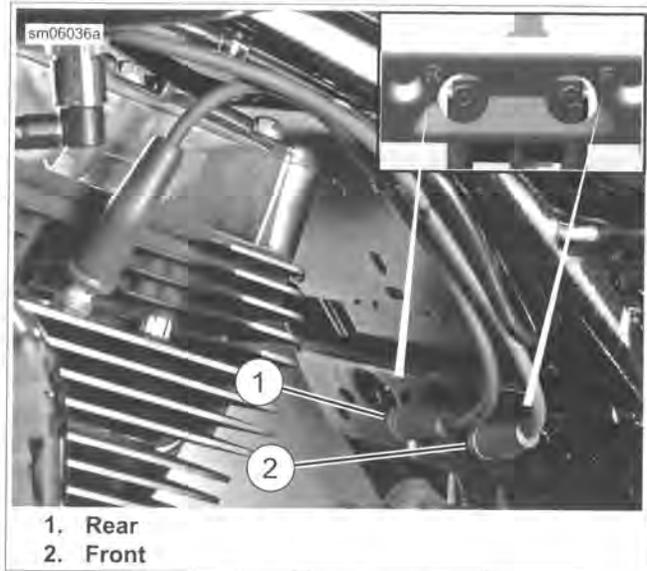
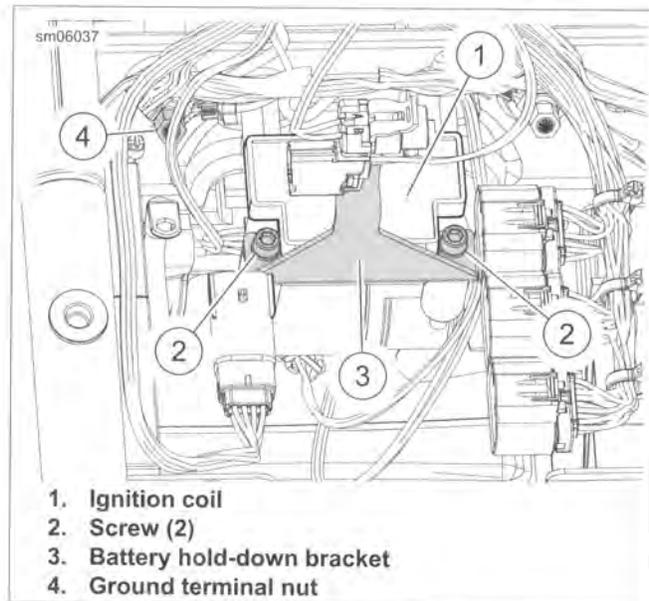

Figure 7-7. Spark Plug Wires
Figure 7-8. Ignition Coil
2. See Figure 7-7. Remove spark plug wires (1, 2) from ignition coil towers.
4. See Figure 7-8. Remove screws (2) and battery hold-down bracket (3).
5. Loosen ground terminal nut (4). While holding ground terminal wires out of the way, remove ignition coil (1).
1. See Figure 7-8. While holding ground terminal wires out of the way, place ignition coil (1) into position.
2. Install battery hold-down bracket (3) and screws (2). Tighten to 32-40 **in-lbs** (3.6-4.5 Nm).
3. Tighten ground terminal nut (4) to 50-90 **in-lbs** (5.7-10.2 Nm).
4. See Figure 7-7. Install ignition coil connector.